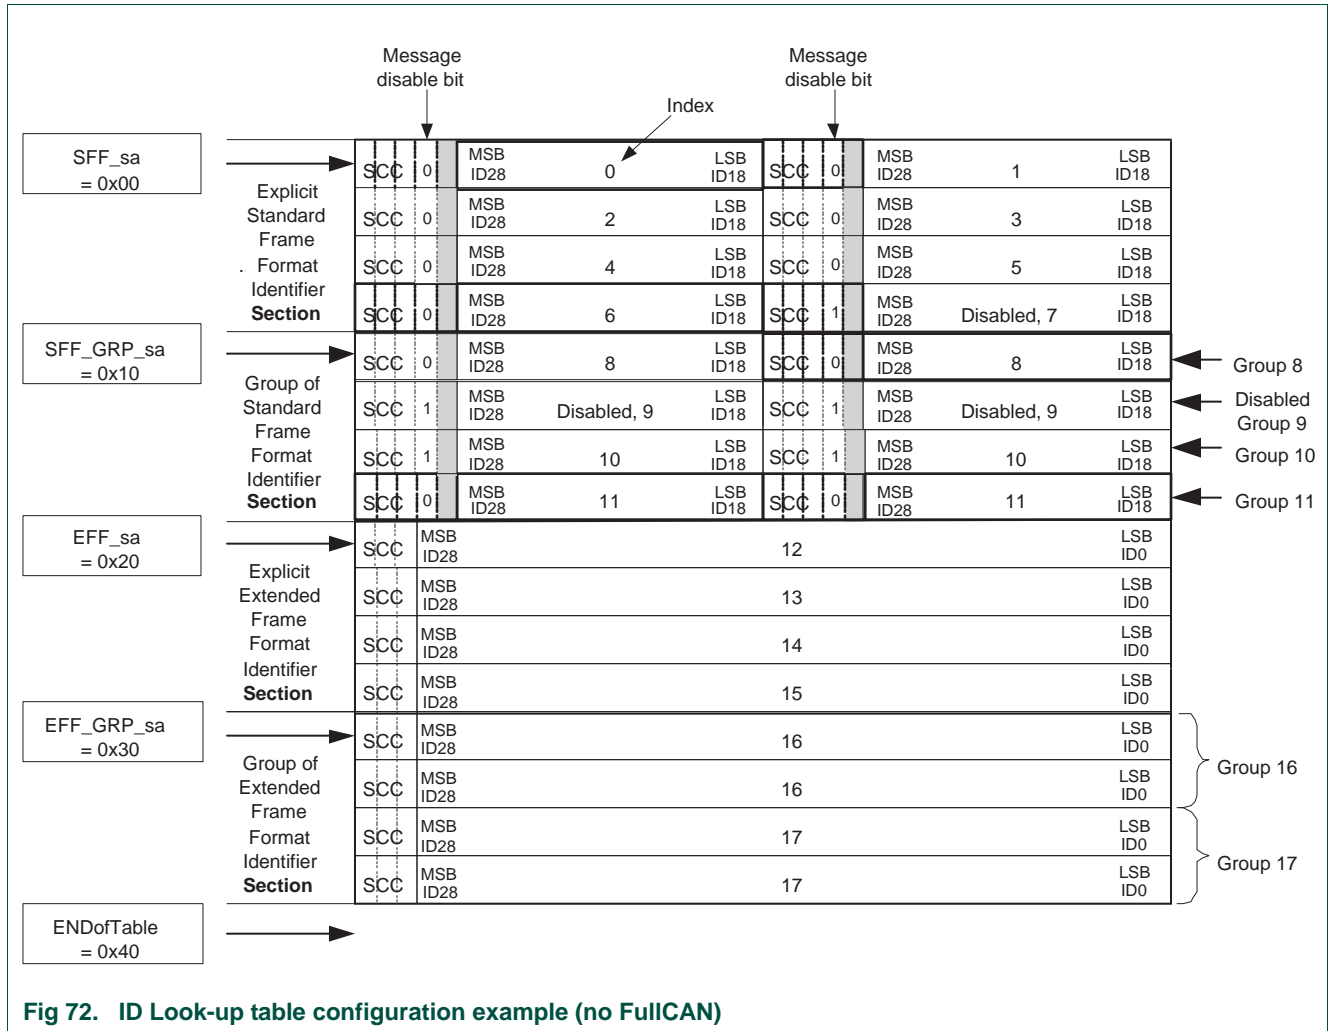

Fig 72. ID Look-up table configuration example (no FullCAN)
The Table below shows which sections and therefore which types of CAN identifiers are used and activated. The ID-Look-up Table configuration of this example is shown in Figure 72.
**Explicit extended frame format identifier section (29-bit CAN ID, Figure 72)**
**Group of extended frame format identifier section (29-bit CAN ID, Figure 72)**